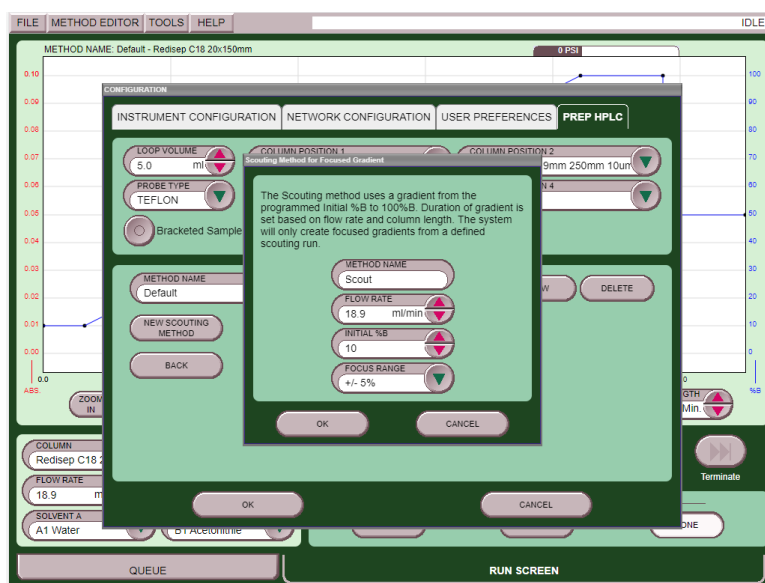

Figure 2-4 Define Scouting Method screen
3. You are able to define the initial starting % B; the flow rate; the focus range; and assign a name to the scouting method. This name is what will show as a method to select to run on this column (Figure 2-4).